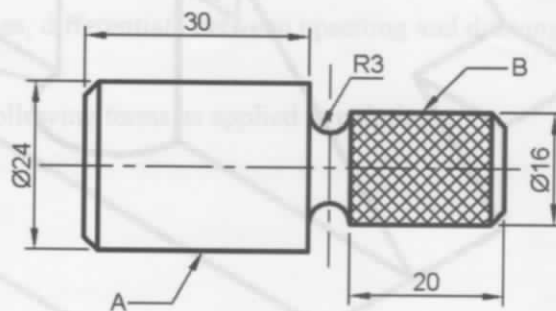

Figure 3
13. **Figure 3** shows a component to be produced on a lathe machine.